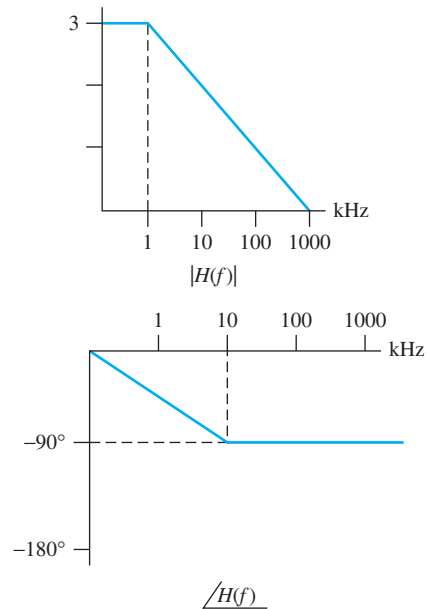

FIGURE P7.21 Frequency response for Problem 7.21.
- 7.21** (A) Find the output of the filter represented by the frequency response in Figure P7.21, given the input: